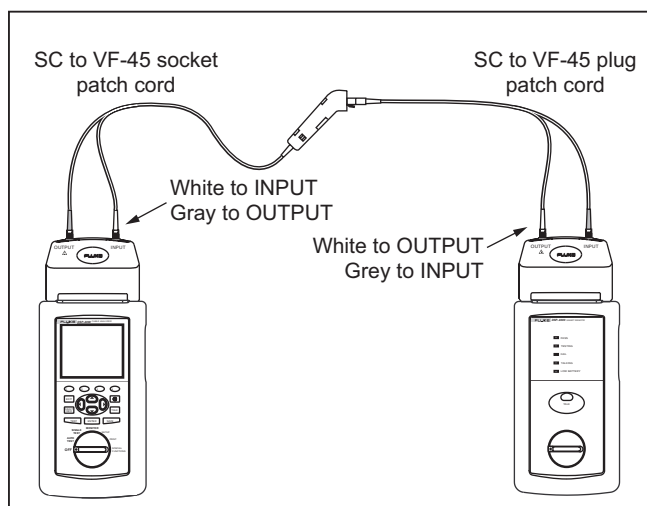

Figure 2. Reference Connections
2. Make the connections shown in Figure 2 for setting a reference.
1. Disconnect the reference connections shown in Figure 2 at the Fiber Jack adapter, leaving the adapter connected to the patch cord on the main unit.